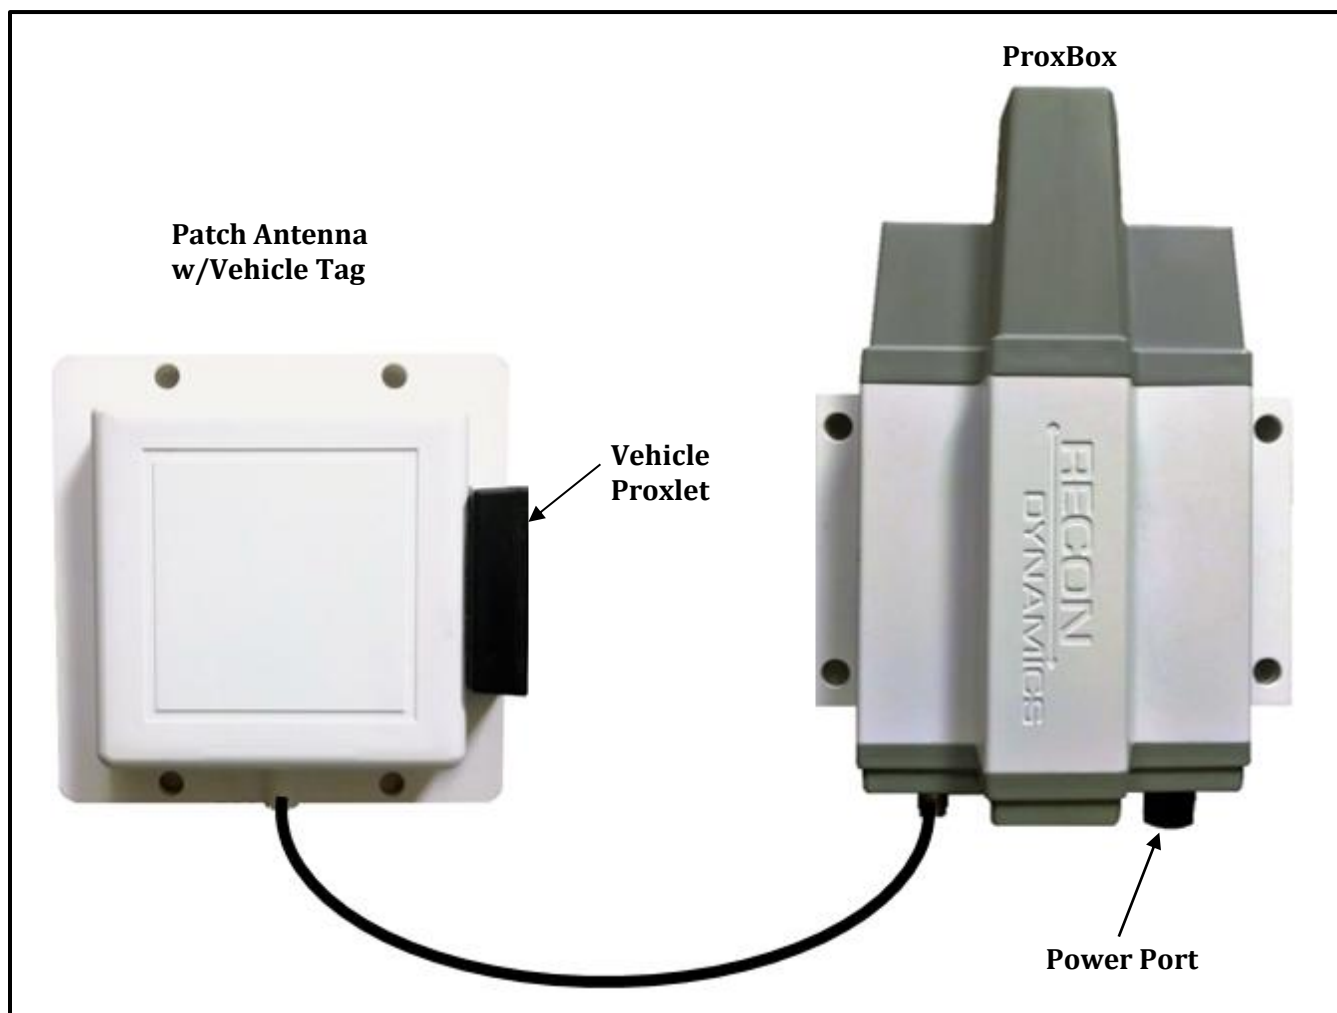

Figure 2
- Connect cable to ProxBox and hand tighten. Refer to Figure 2 for ProxBox port identity.
- Connect the power connector to the ProxBox and hand tighten. Once the power cord is fit over the power connector a final ¼ turn is required to secure the power connection. Refer to Figure 2 for ProxBox port identity.